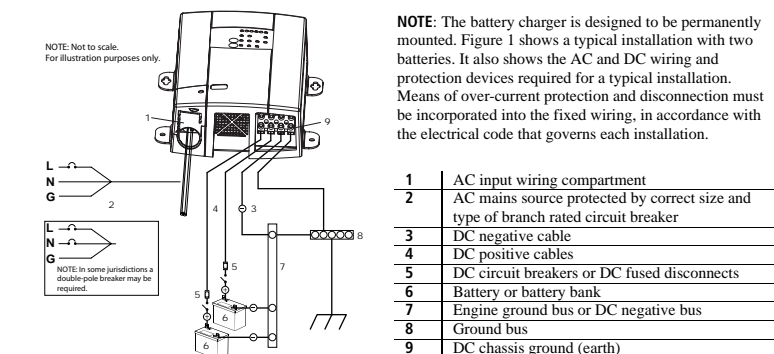

Figure 1 Configuration for Normal Loads
9. Connect the negative cable to the negative DC terminal on the charger. See Figure 1, “Configuration for Normal Loads”.